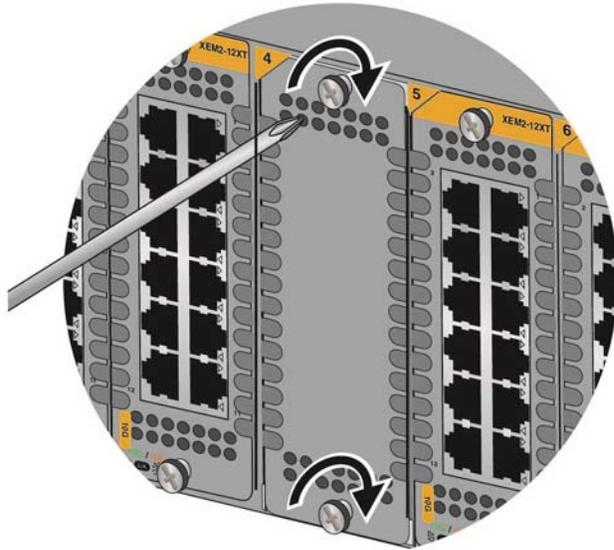

Figure 62. Tightening the Captive Screws on a Blank Slot Cover
2. Tighten the two captive screws with a #2 Phillips-head screwdriver to secure the cover to the chassis. Refer to Figure 62 on page 114.